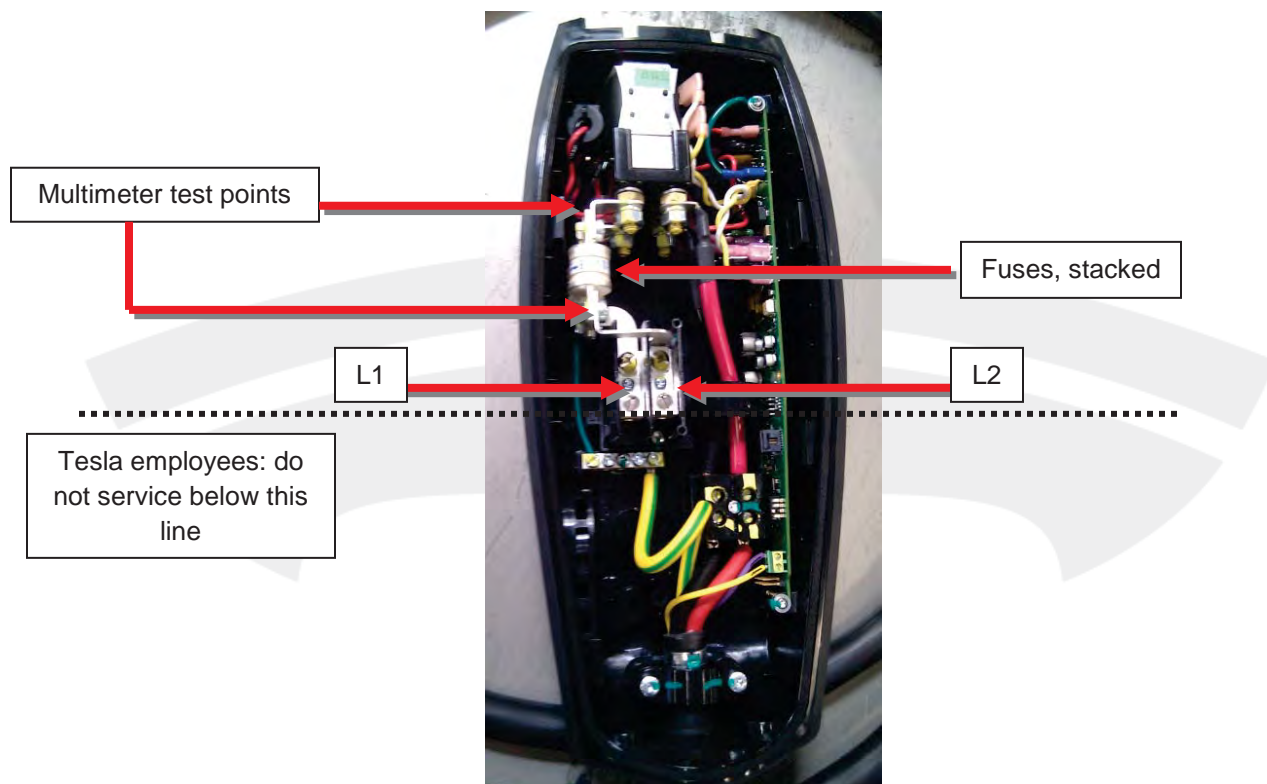

Figure 1 (Unit shown is not connected to house wiring)
5. Use a multimeter to check points on either side of each fuse and identify which fuse(s) failed (Figure 1). If neither fuse failed, stop this procedure and contact Engineering for support.